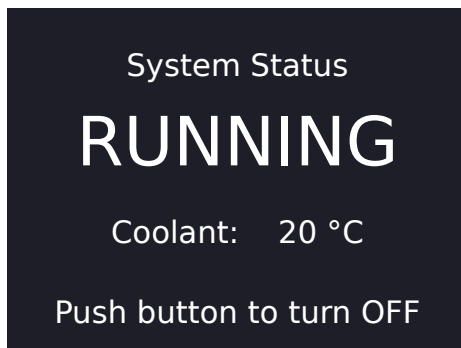
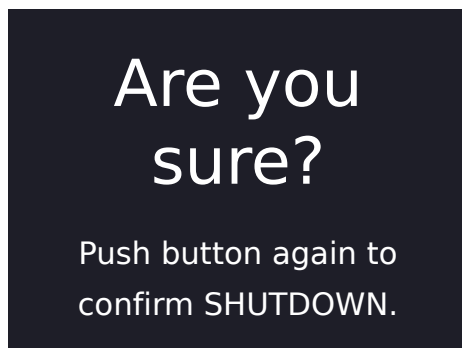

Fig. 17 - Running screen
Fig. 19 - Confirmation screen
5. Normal Cooler operation begins when the operating flow is achieved (*Fig. 17*).
1. Press the **MODE** button once. A screen confirming Cooler shutdown appears (Fig. 19), and the indicator will blink yellow. If the **MODE** button is not pressed a 2nd time within 5 seconds, the screen reverts to running (Fig. 17).